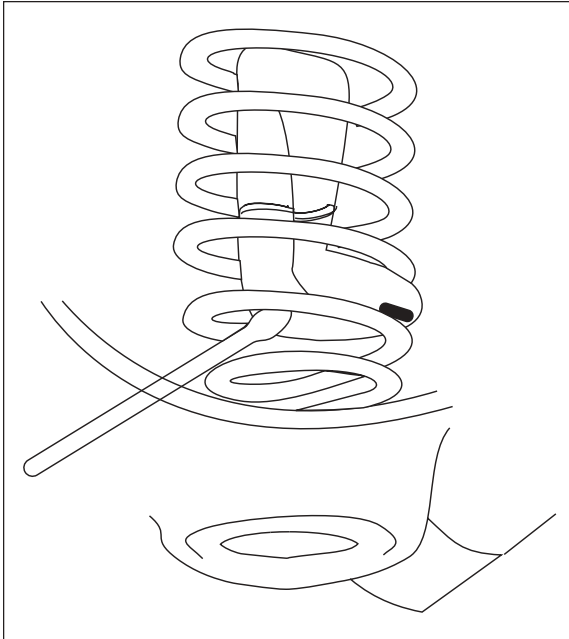

Figure 1
4. Insert flattened air cylinder into coil spring through lowest opening with stem at the bottom (Figure 1).
If the vehicle's headlights are shining into the trees or the vehicle is leaning to one side, then it is not level (fig. 1). Raise the air pressure to correct either of these problems and level the vehicle.